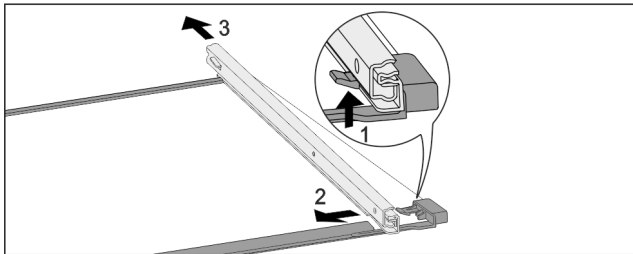

Fig. 265 Glass shelf with rails
- ▶ Push up front click-in hooks. Fig. 265 (1)
- ▶ Move the pull-out rails to the side Fig. 265 (2) and to the rear Fig. 265 (3).